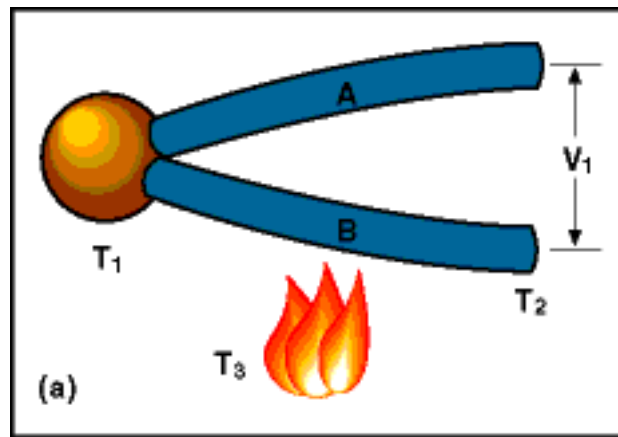

Figure 12. A typical thermocouple diagram
45) The thermocouple in Figure 12 could be used to measure the temperature difference between T_1 and T_2 only if the wires, A & B, were both at the same temperature, T_3 .